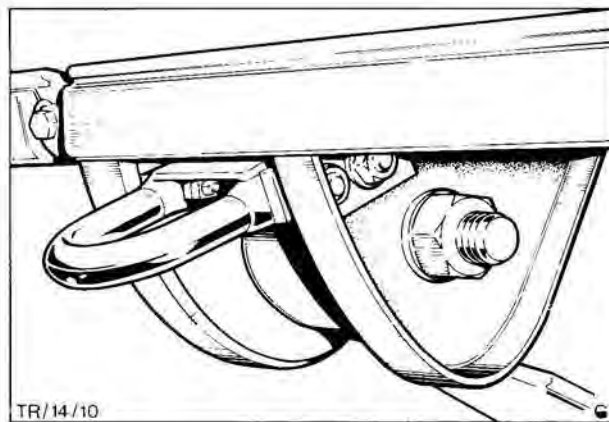

Fig. 10. Front spring eye bolts
12. Fit front spring eye bolts, Fig. 10, through body brackets and front springs.